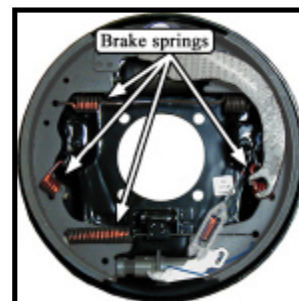

Figure 2
9. Remove the upper and lower return springs and brake shoe retaining springs (figure 2).